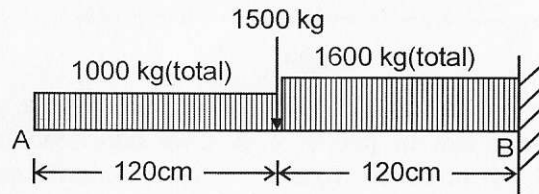

Figure 5
- (e) Calculate the shear force V_B and the bending moment M_B at the section just to the left of the wall at B, for the cantilever beam in Fig.5.